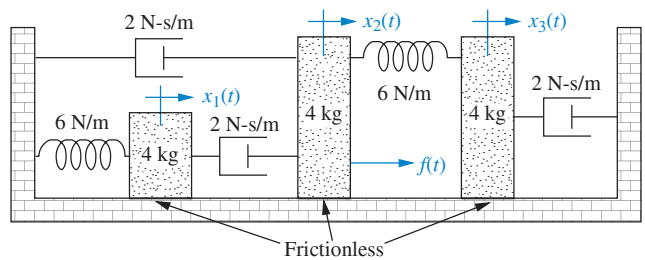

FIGURE P2.13
28. Find the transfer function,  $G(s) = X_3(s)/F(s)$ , for the translational mechanical system shown in Figure P2.13. [Section: 2.5]